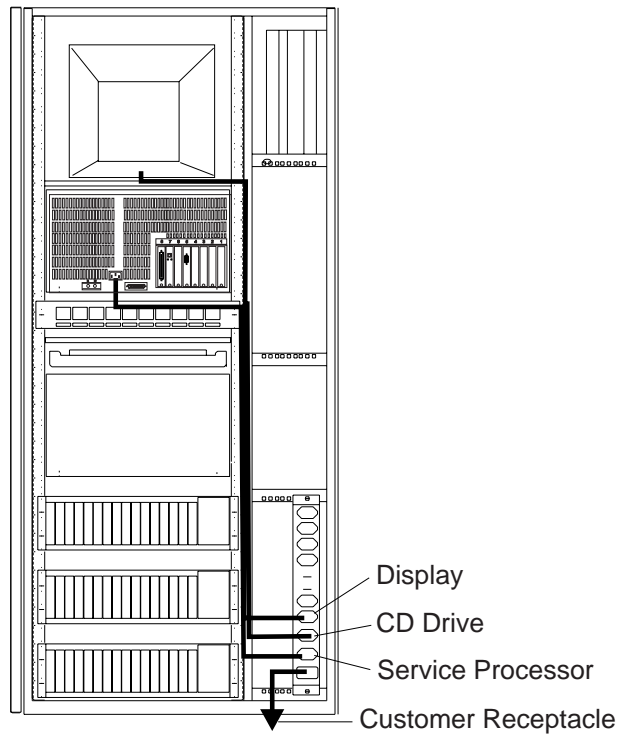

Figure 1-35. Power Cords Connection
21. ____ Route and connect the power cords (PN 58G5783) from the display, CD disk drive, and service processor unit to the ac outlet distribution box as shown in Figure 1-35. Secure these cables using tie clamps along the frame, then go to step 23 on page 1-35.